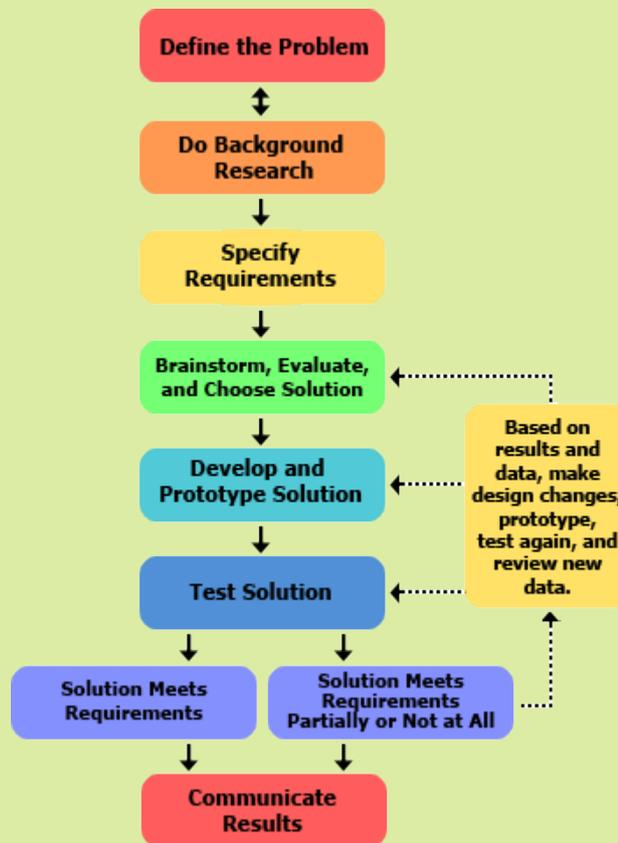

Figure 2. Pictures of the testing apparatus confined within a large plastic container.
30 min	<p>Construct the testing apparatus as follows:</p> <ol style="list-style-type: none"> 1. Cut a hole in the end of a shoebox. The hole should be sized so that the narrow end of a hair dryer fits into it. 2. Cut out the opposite end of the shoebox so it is completely open. 3. Tape a piece of string so that it extends horizontally across the top of the cut-out end. 4. Fold a piece of aluminum foil in half and hang it over the string. The deflection of the foil when the hair dryer is on will be used to indicate the amount of air flow. This will be measured with a protractor. 5. Fold four index cards into an "I" (L) shape. Tape these halfway down the length of the shoebox on the inside to hold the students' filters (see Figure 1). <div style="text-align: center;">  <p style="font-size: small;">Figure 1. The filter testing apparatus.</p> </div> <ol style="list-style-type: none"> 6. Set up the testing apparatus in a location to which students have easy access. Position the hair dryer through the first hole cut in the shoebox (a ring stand may be useful for holding the hairdryer). Set a large container on its side at the other end of the apparatus to catch particles. If you are using a long container, such as a trash can, you may need to place the entire apparatus inside the container so that students will be able to capture particles with a pollution collector (see Figure 2).